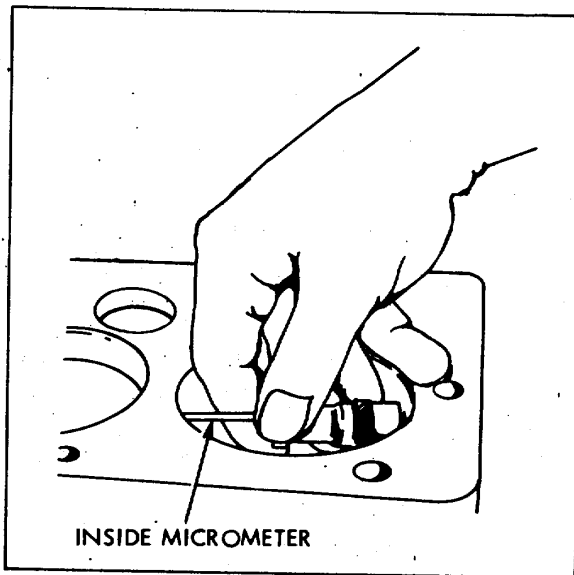

Figure 6-39. Measuring Cylinder Bore
(1) Remove gasket residue from cylinder block.
(2) Remove dirt, carbon, and sludge.
(3) Clean oil and water passages.
(4) Clean block with SD and dry with compressed air.
(5) Inspect block for cracks or damage.
(6) Inspect expansion plug for good condition and tight seal, and replace plug if necessary.
(7) Examine machined surfaces for scratches, nicks, burrs, or similar damage.
(8) Examine all threaded holes and retap any that are stripped or damaged.
(9) Inspect cylinder bores while holding a light at the bottom of each bore. If rust pits are evident, or if bores are deeply scratched or scored, rebore block.
(10) Rotate dial indicator in cylinder or measure bore with inside micrometer, and observe and record largest and smallest indications (Figure 6-39). The difference between the indications is the amount of out of round. Move dial